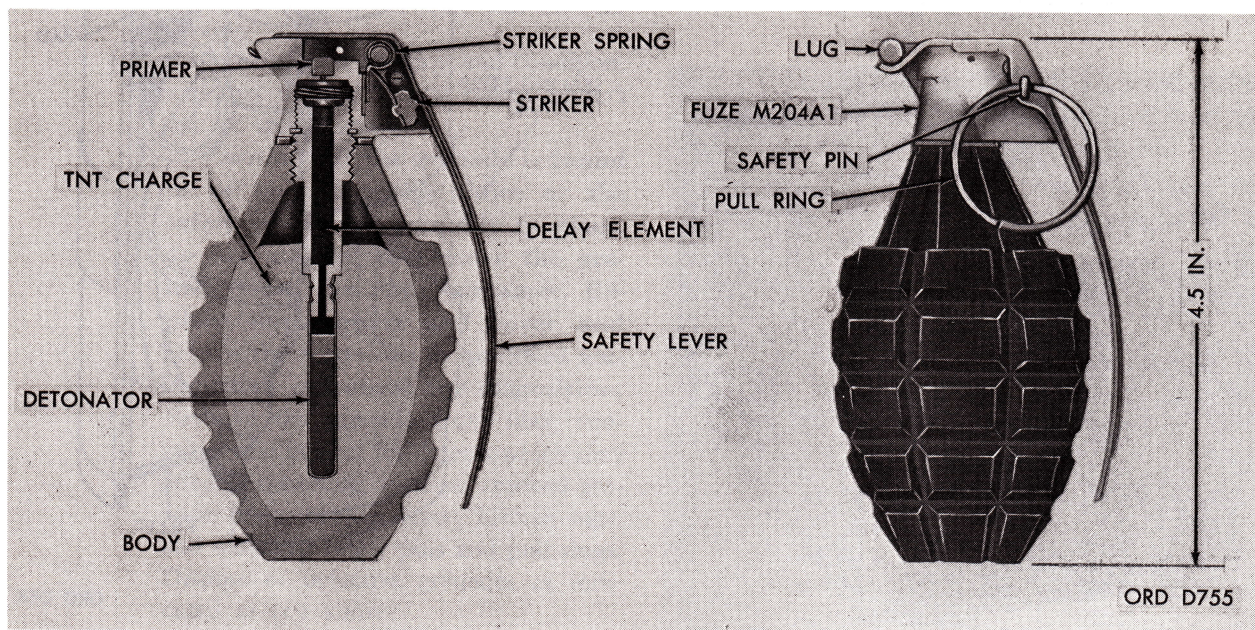
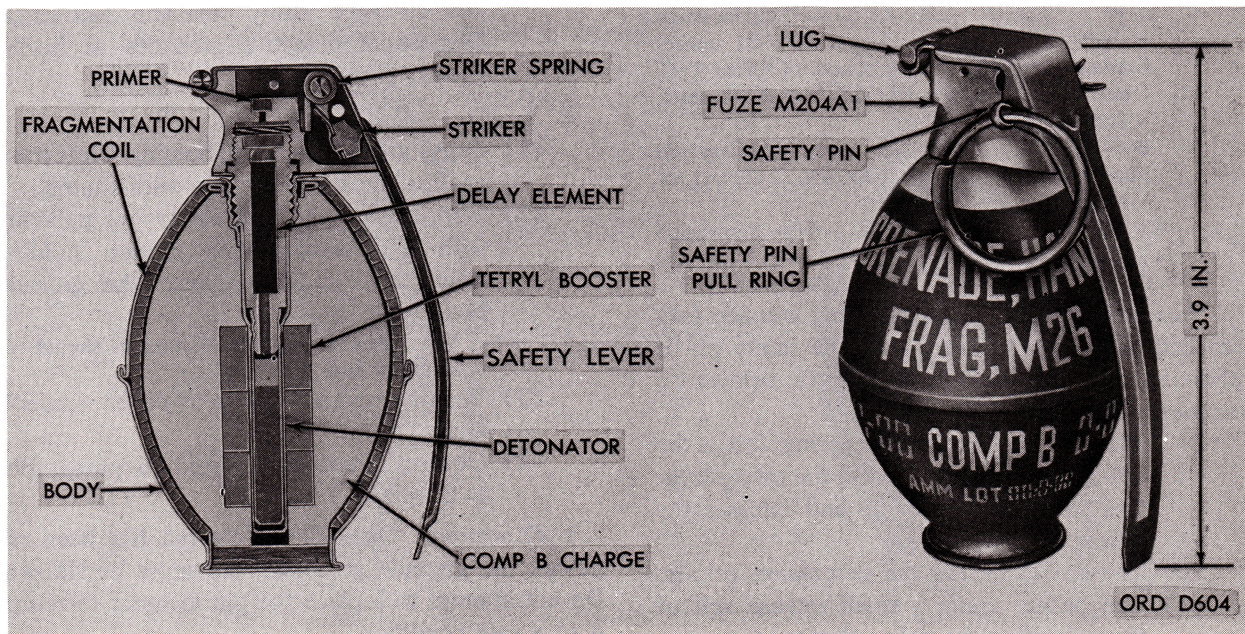

Figure 2-3. Grenade, hand: fragmentation, Mk2, w/fuze M204A1
Figure 2-4. Grenade, hand: fragmentation, M26, w/fuze M204A.
grenade projection adapter, a fragmentation hand grenade may be projected from a rifle (paras 3-11 and 3-12) thus increasing its maximum range to approximately 160 meters. There are two basic types of fragmentation hand grenades: the older fragmentation hand grenade Mk2 (fig. 2-3) (para. 2-4) and the newer improved fragmentation hand grenade M26 series (fig. 2-4) (para. 2-5). These two types are functionally the same but the M26 has much greater casualty-producing power in the area of burst and is less hazardous from the standpoint of stray fragments at extended distances.
a. *General.* Fragmentation hand grenade Mk2 (fig. 2-3) is an older type grenade. It is the grenade from which the term "pineapple" was derived because of its deeply serrated body. These deep serrations delineate the fragmentation of the body when the grenade explodes. The grenade Mk2 is no longer being manufactured. As present stocks are depleted, the Mk2 is being replaced by the improved design of the grenades M26-series (para. 2-5).
- (1) *General.* The grenade Mk2 consists essentially of three basic parts: an explosive charge, a body, and a fuze. This grenade is issued with fuze M6A4C, M204A1, or M204A2. The three fuzes function the same. They differ in such physical details as shape of body, shape of lever, and loading. The M6A4C is a noisy, spark-and-smoke-producing fuze. The fuzes M204A1 and M204A2 (improved versions of the earlier fuze M2043 are noiseless, sparkless, smokeless types.
(2) Data.
(1) *General.* Hand grenades, M26-series (fig. 2-4), were developed as replacements for fragmentation hand grenade Mk2 (para. 2-4). Hand grenades, M26-series, have a larger explosive charge and a more effective casualty radius, are lighter than the older grenades Mk2 and produce more fragments than Mk2 grenades. Fragments, though smaller than those produced by Mk2 grenades, have a higher initial velocity.